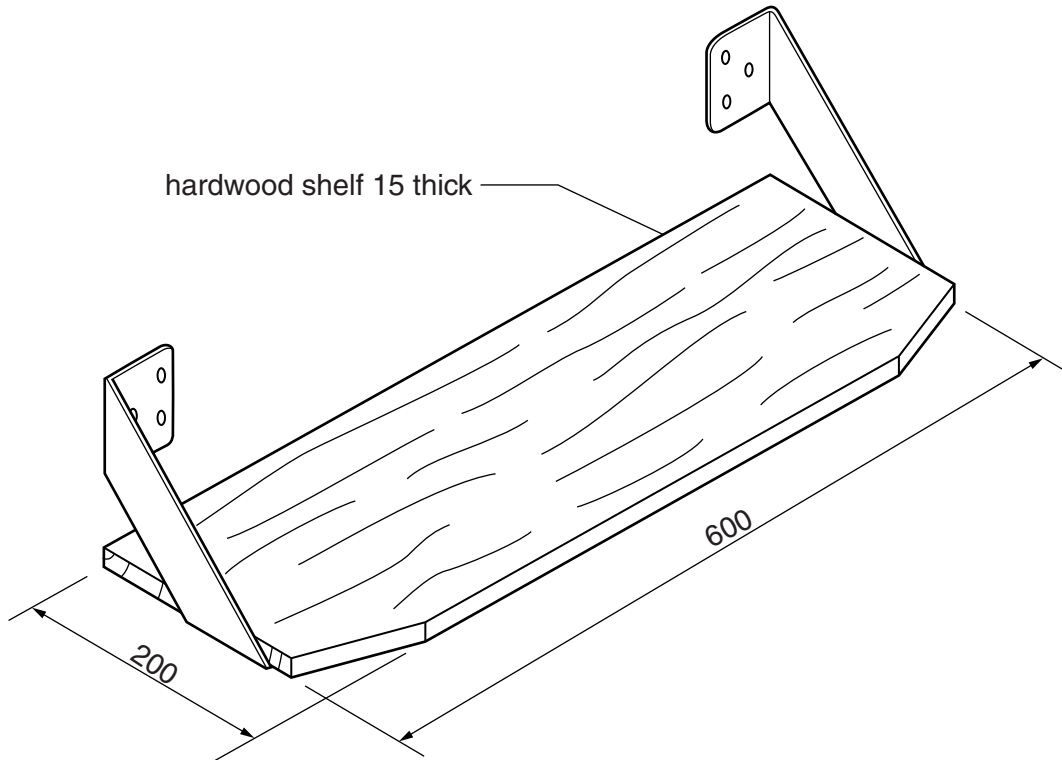

Fig. 14
- 13 Fig. 14 shows a hardwood shelf supported by two end brackets. The brackets could be made from acrylic or aluminium.